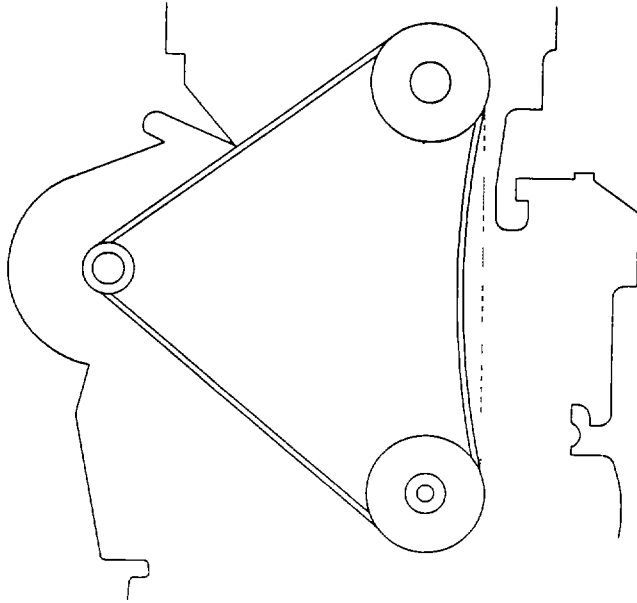

Figure 4-12. Fan Belt Adjustment.
c. Adjustment. Refer to figure 4-12.